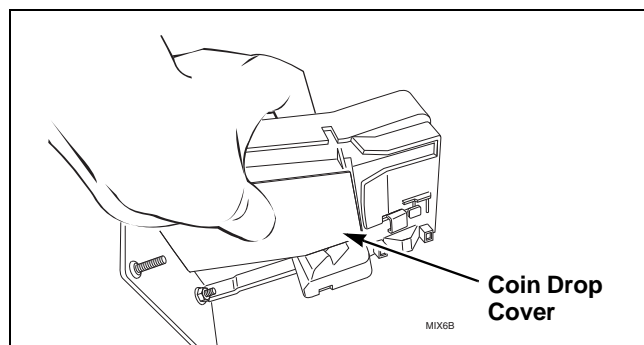

Figure 2
2. Manually hold down coin drop cover and insert coin. Refer to *Figure 2*.